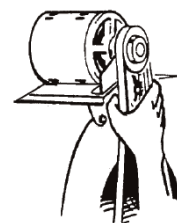

Figure 4
- ✓ Blower wheel, shaft, pulley and motor sheave set bolts/screws are snug. (see figure 4)